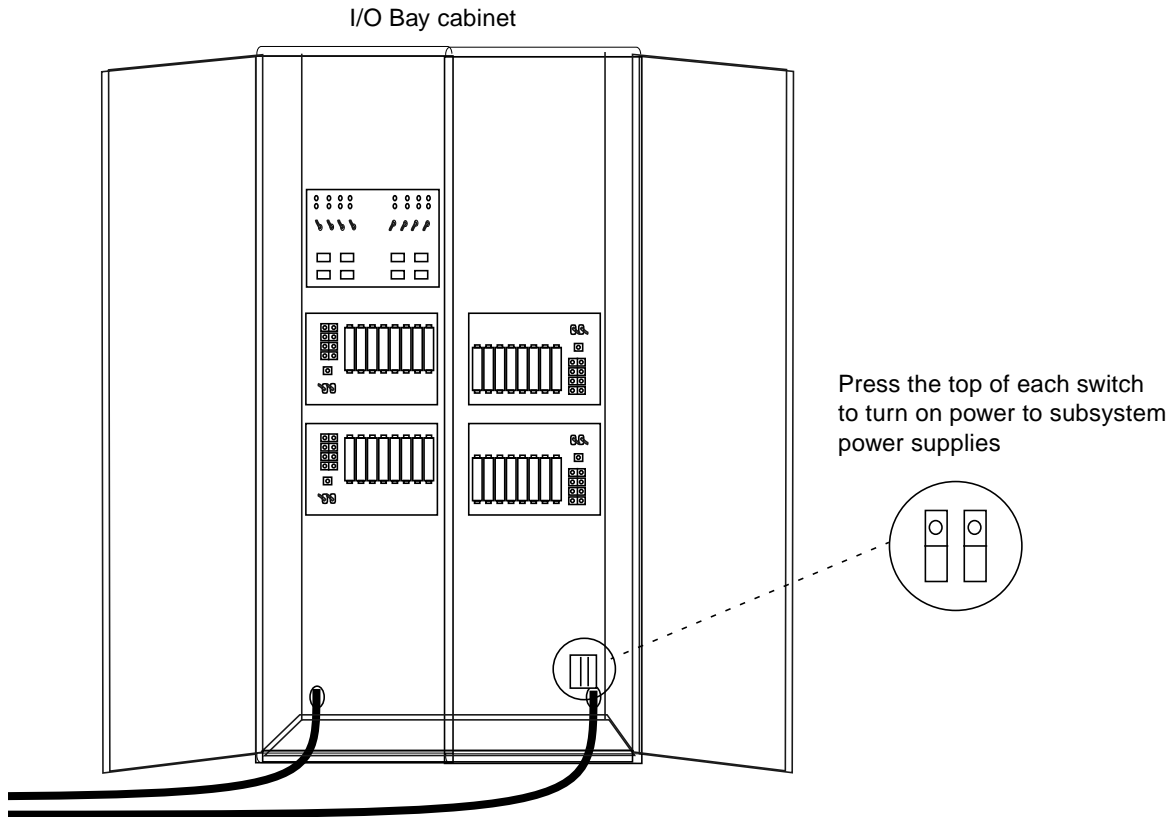

FIGURE 5-6 AC Box Power Switches
3. Just above the right power cord are two switches labeled DSP1 and DSP2. Press the top of the switch to throw these to ON. See FIGURE 5-6. These supply power to the dual DC supplies for each subsystem. The LED in each switch will light.